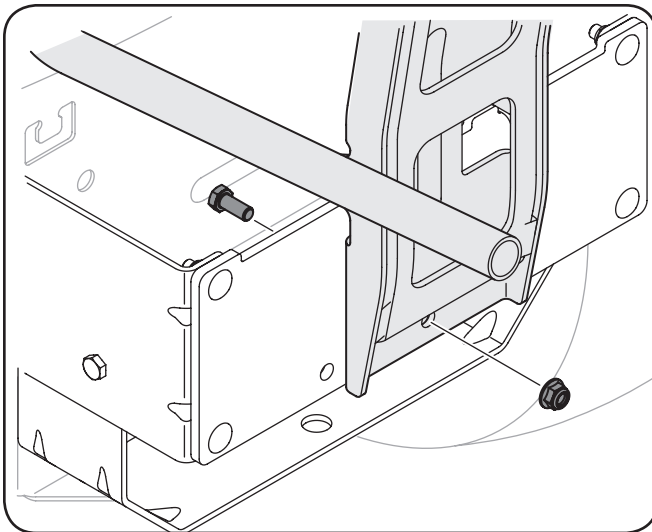

Figure 4-11
4. Secure the hanger assembly to the mounting assembly using a 5/16" bolt and flange nut provided. See Fig. 4-11.